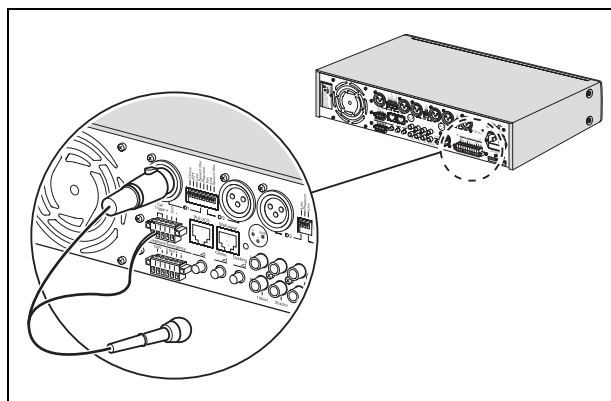

figure 4.3: XLR connector with trigger
- XLR connector with trigger. See figure 4.3.